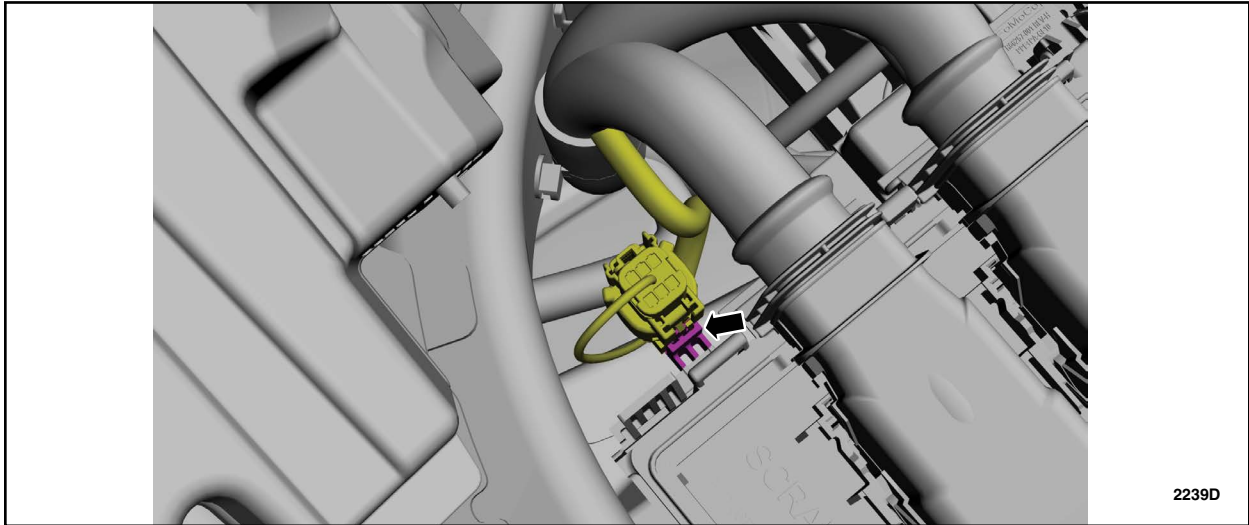

FIGURE 4
8. Release the wire guide from the battery junction box. See Figure 4.